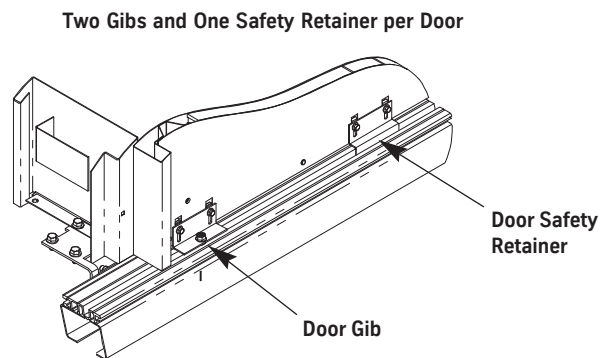

Figure 13 - Door Gibs and Safety Retainers
7. Install the door gibs and the door safety retainers. See Figure 13.